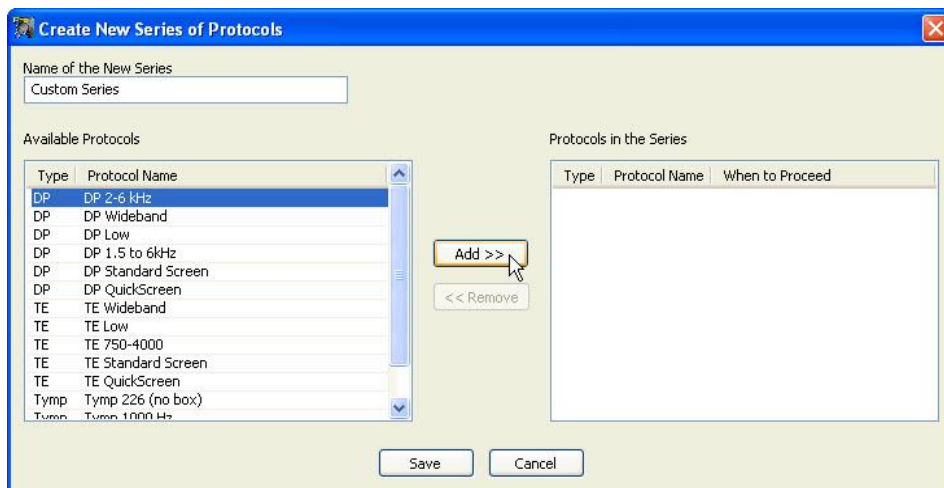

Figure 93
- Step 2:** From the list of *Available Protocols* on the left of the window, select the first protocol for the series and then click *Add* (Figure 93).
Continue repeating step 2 (selecting from available protocols) and step 3 (determining how to proceed) as described above until the series contains the desired protocols. When finished, click *Save* on the *Create New Series of Protocols* window (Figure 93).